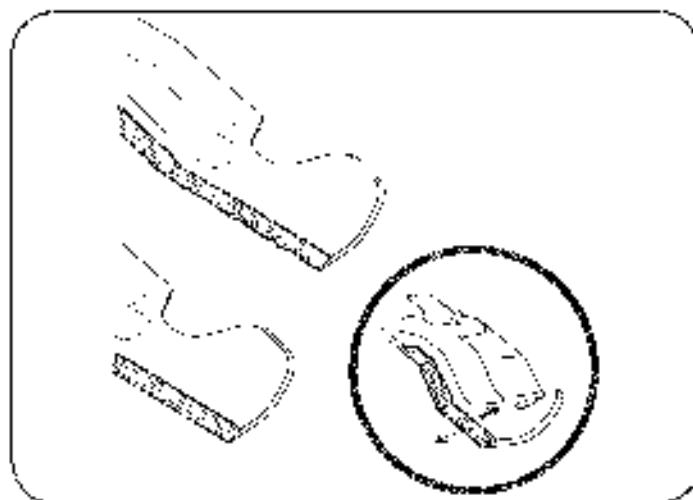

Figure 13
3. Loosen and remove the blade bolt, locking plate, and blade. See Figure 13.
To properly sharpen the cutting blades, remove equal amounts of metal from both ends of the blades along the cutting edges, parallel to the trailing edge, at a 25° to 30° angle. See Figure 13.